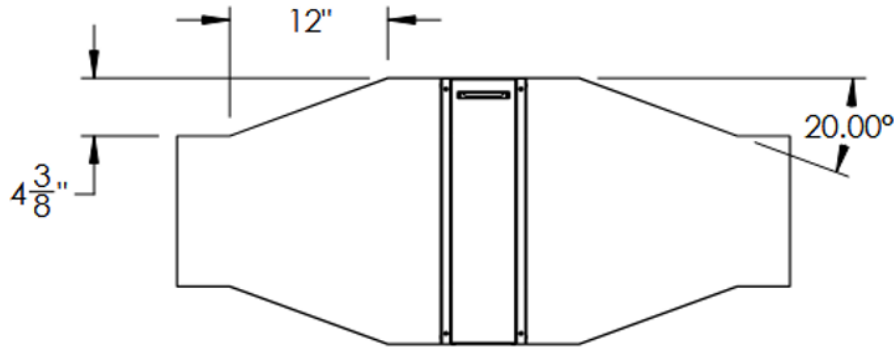

Fig. 4. Maximum duct transition angle to prevent turbulence
- Use gradual transitions if duct size differs from cabinet dimensions (max 20° expansion [Fig. 4])